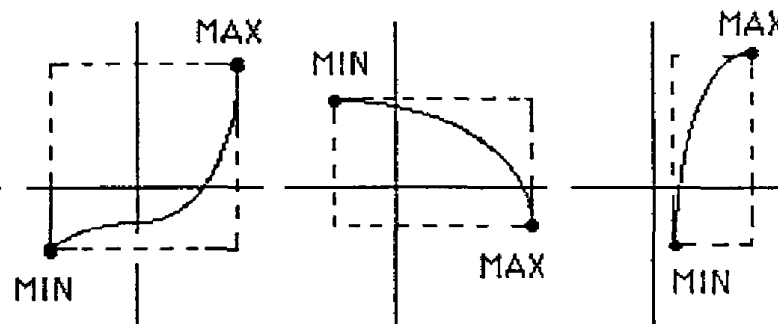

Figure 10
1) The nonlinear function must be totally enclosed by the rectangular area defined by the minimum and maximum points. Figure 10 gives examples of the "rectangular area".